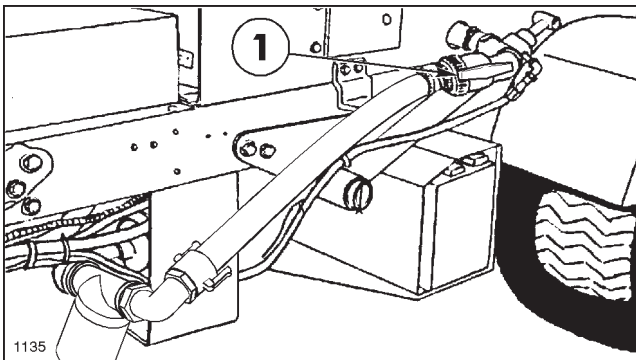

FIG. 2
**SUCTION VALVE HANDLE:** Opens and closes the Suction Line Valve. Close during maintenance to the Suction Line Strainer or Centrifugal Pump. See FIG. 2.